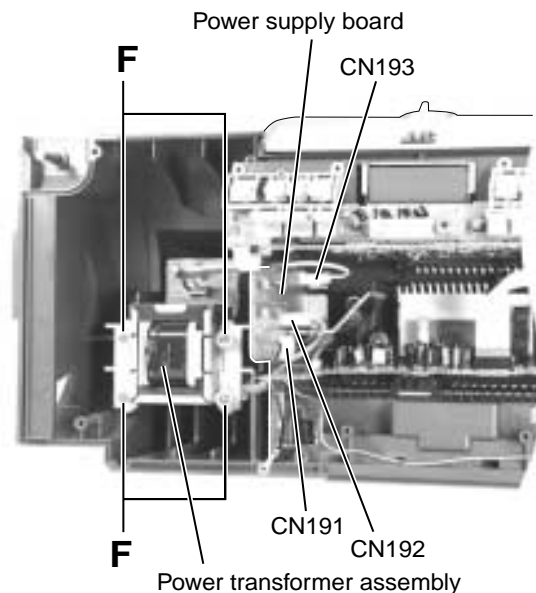

Fig.10
■ Remove the power transformer assembly (See Fig.10)